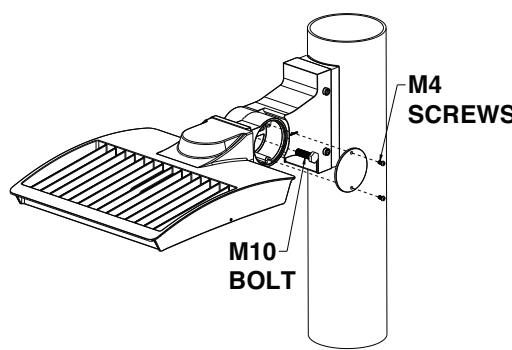

FIG. 6
4. To aim the fixture, remove the cover plate, loosen the M10 center knuckle bolt on the arm, adjust the aim 0 to 60° both upward and downward to the desired angle (see FIG. 6).